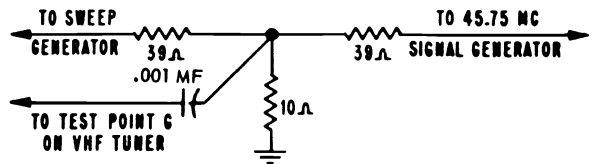

Fig. 4 MATCHING NETWORK
3. Connect generator to VHF tuner. Test point "G" through the generator matching network of figure 4. Ground low side nearby.